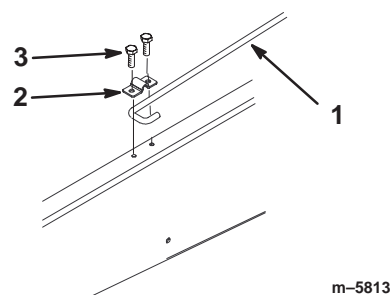

Figure 9
- Loosen the bolt securing the prop rod clip to the frame until you can slide the J-hook end of the prop rod under the clip (Fig. 9).
- Tighten the bolt and secure the other side of the clip with a new bolt (5/16 x 3/4 inch) (Fig. 9).